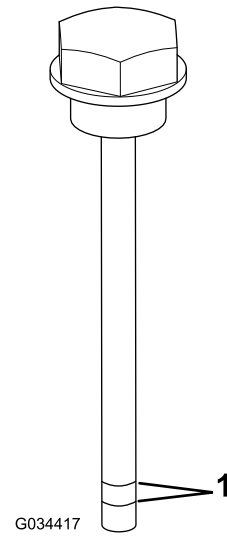

Figure 6
2. Add 80W-90 gear oil into the port until the oil level is between the fill lines on the breather (Figure 6), with the dipstick threaded all the way into the port.